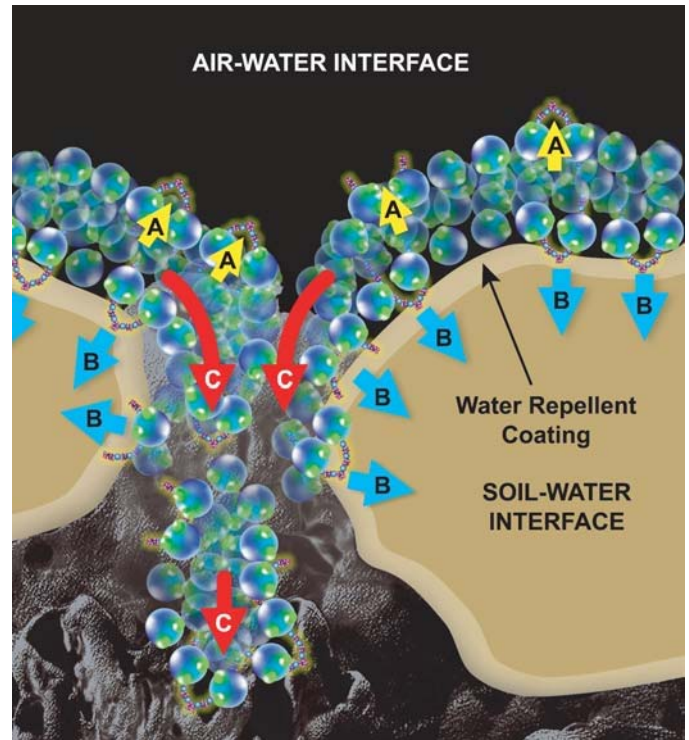

Figure 1. **Stringer Injectable Mode-of-Action**
**Penetration.** When injected through irrigation systems, Stringer Injectable surfactant molecules migrate to the water droplet surface (Fig. 1). The surfactant's nonpolar end ("tail") is positioned outside the water boundary and its polar end ("head") is positioned just inside the surface of the water droplet. At the air-water interface (A), water molecules move outward towards the polar end of the surfactant. This reduces surface tension and reduces the "beading" effect of water droplets which allows water to spread when it contacts solid surfaces. Water treated with Stringer Injectable becomes less prone to hanging up in the thatch or surface litter, thus facilitating penetration through these barriers as it moves toward the soil surface.